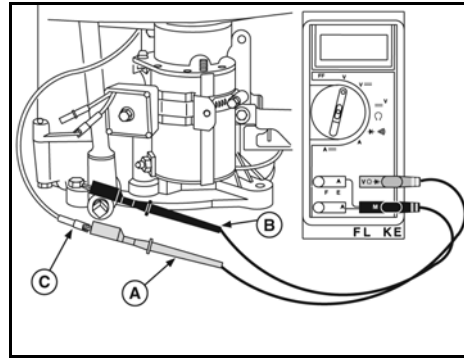

Figure 26
2. Insert RED test lead (A, Figure 26) into the V  $\Omega$  receptacle in the meter.
3. Insert BLACK test lead (B) into COM receptacle.
5. Attach RED test lead clip to GREEN output terminal (C).